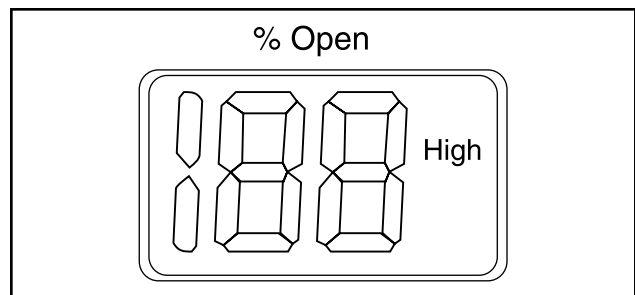

Figure 27
- **High** represents that ICAD is operating the ICM valve like an ON/OFF solenoid valve with high speed according to a digital input signal (Figure 27).